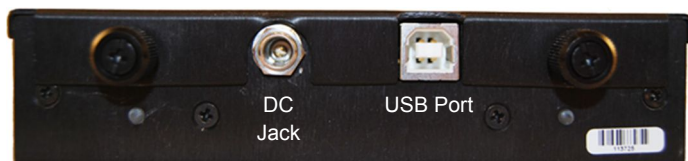

Figure 1
3. Connect the DC plug from the AC Power Adapter into the DC jack on the rear of the M4x Blade as shown in Figure 1.